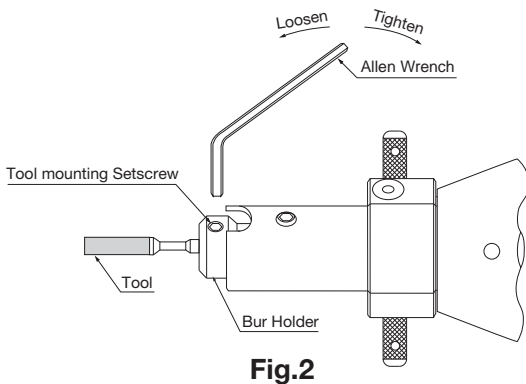

Fig.2
- ① Insert a tool (less than $\phi 3.2$ mm) into the bur holder and tighten the tool mounting setscrew with the supplied Allen Wrench (**Fig.2**).
Loosen the tool mounting setscrew with supplied Allen Wrench, and remove (**Fig.2**).